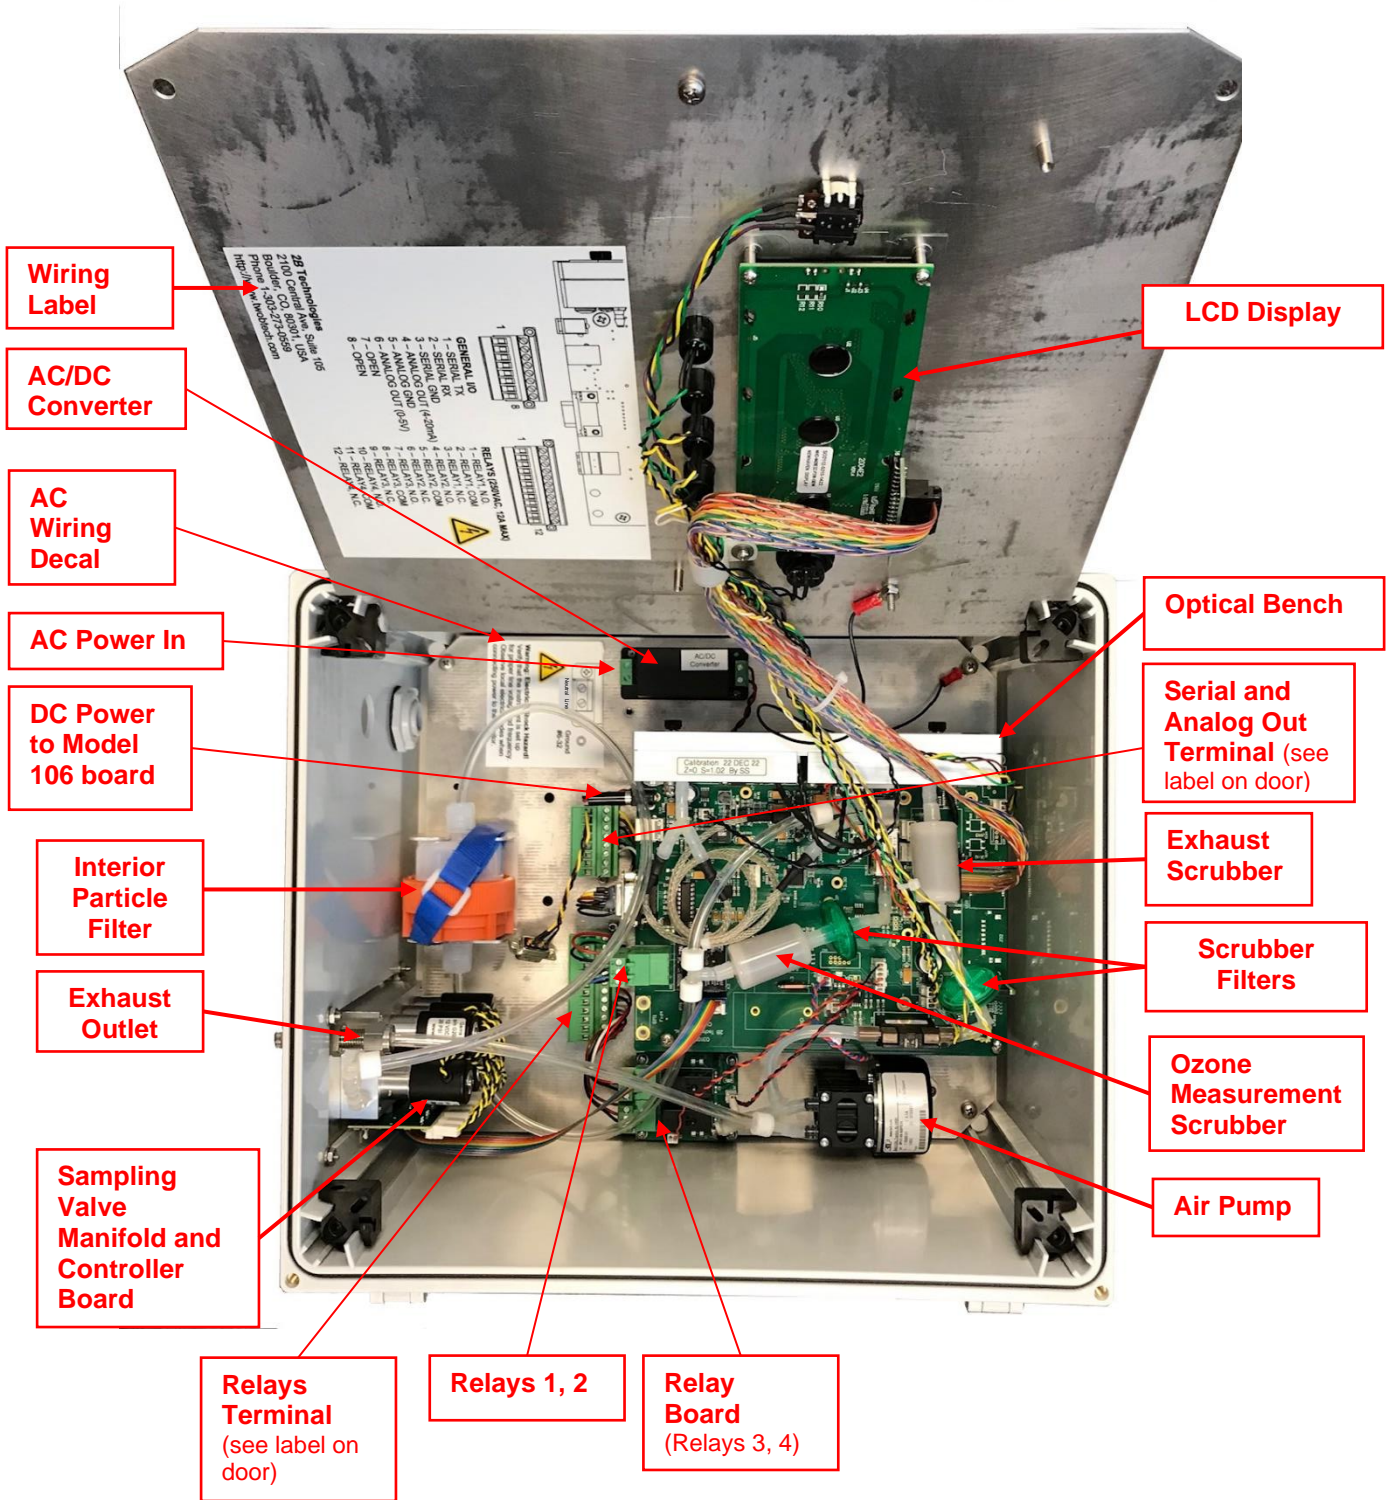

Figure D-7. Full open view of the Model 106-L-MC6 Ozone Monitor. See Figures 7.1a and 7.1b of this manual for a better view of the analogous components.
- The inlet filter located inside the instrument (Figure D-7 below) should be changed approximately every 1 to 3 months of operation of the instrument, depending on the particulate loading of the air being sampled. If using external prefilters on the individual sample lines, this frequency may be reduced.